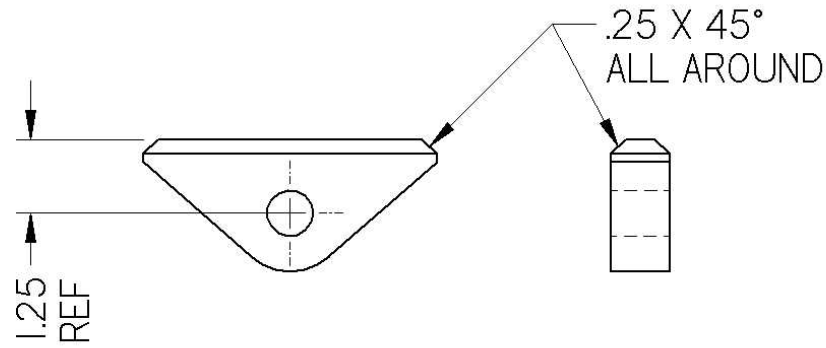

Figure 2: Top Mount Plate Lug
- d) Torch-cut/grind a 1/4" bevel around the base of the lug as shown in figure 2 below.